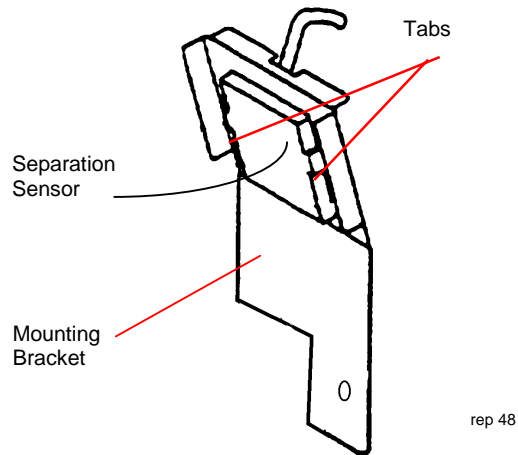

Figure 1. Removing the Separation Sensor
3. (Figure 1): Remove the Separation Sensor together with the mounting bracket.